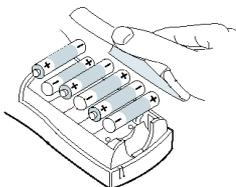

Figure 1
1. Remove the battery compartment cover. See Figure 1.